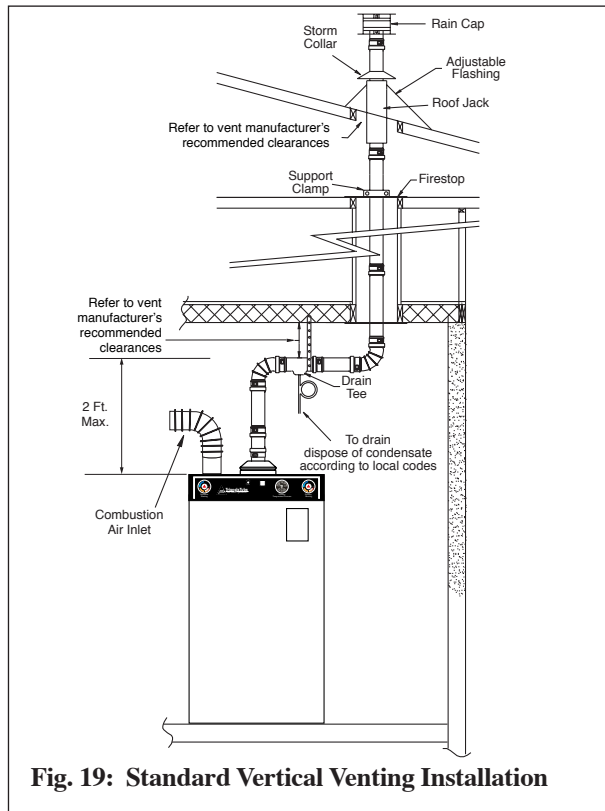

Fig. 19: Standard Vertical Venting Installation
- a. The vent system must contain a condensate trap located no higher than 2 feet above the unit. As shown in Fig. 19 page 34.
A vent condensate tee and drain tube should be installed on a horizontal run of vent near the appliance to prevent any potential condensate from entering the flue ways on the unit. See Figures 19, 20, 21 and 22 page 34.
To prevent flue gases from entering into the building it is important the drain tube is fashioned into a “pigtail” trap as shown in Figures 19, 20, 21 and 22 page 34.